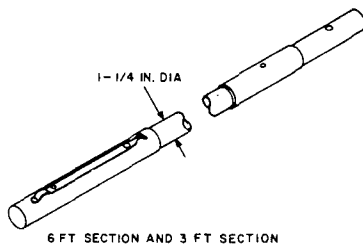

Fig. 5—Fiberglass Tree Pruner Handles
2.08 The fiberglass handles (Fig. 5) are made of light tubular fiberglass, 1-1/4 inches in diameter. They are completely interchangeable with and slightly lighter than the wooden handles. The life of the fiberglass handle is expected to be about twice that of the wooden handle. The new handles are available in the standard 6-foot length and a new 3-foot length. The 3-foot length will facilitate making assembled handles of intermediate lengths.♦